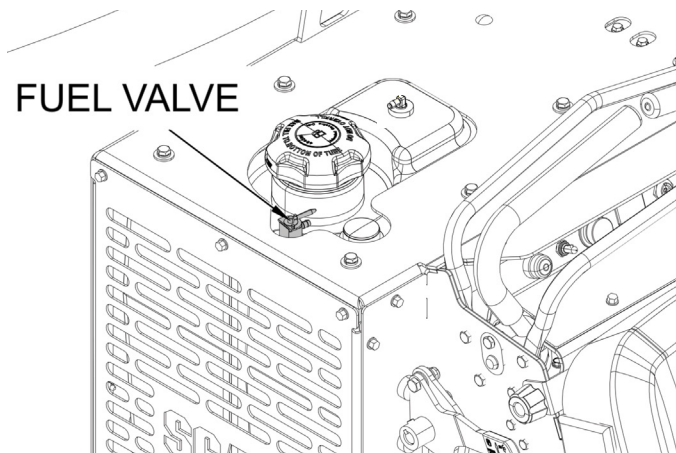

Figure 6-12. Fuel Shut-Off Valve
1. Close the fuel shut-off valve. See Figure 6-12.